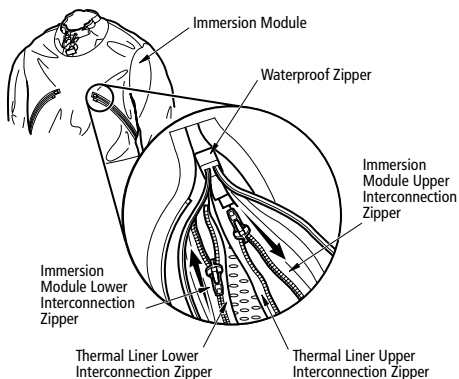

FIGURE 7
- To join these layers together, start at the end of the waterproof zipper underneath the left arm and close the length of the lower interconnection zipper (see fig. 7).
- a) Complete the connection of the immersion module to the thermal liner by starting at the end of the interconnection zippers that are located at the end of the opened waterproof zipper. Close the length of the upper interconnection zipper (see fig. 7).